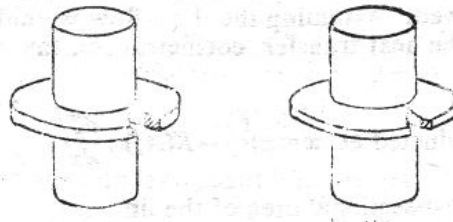

Figure 3
2. Annular (circumferential) fin: Annular fin is one, attached circumferentially, to a cylindrical surface as shown in Figure 3.